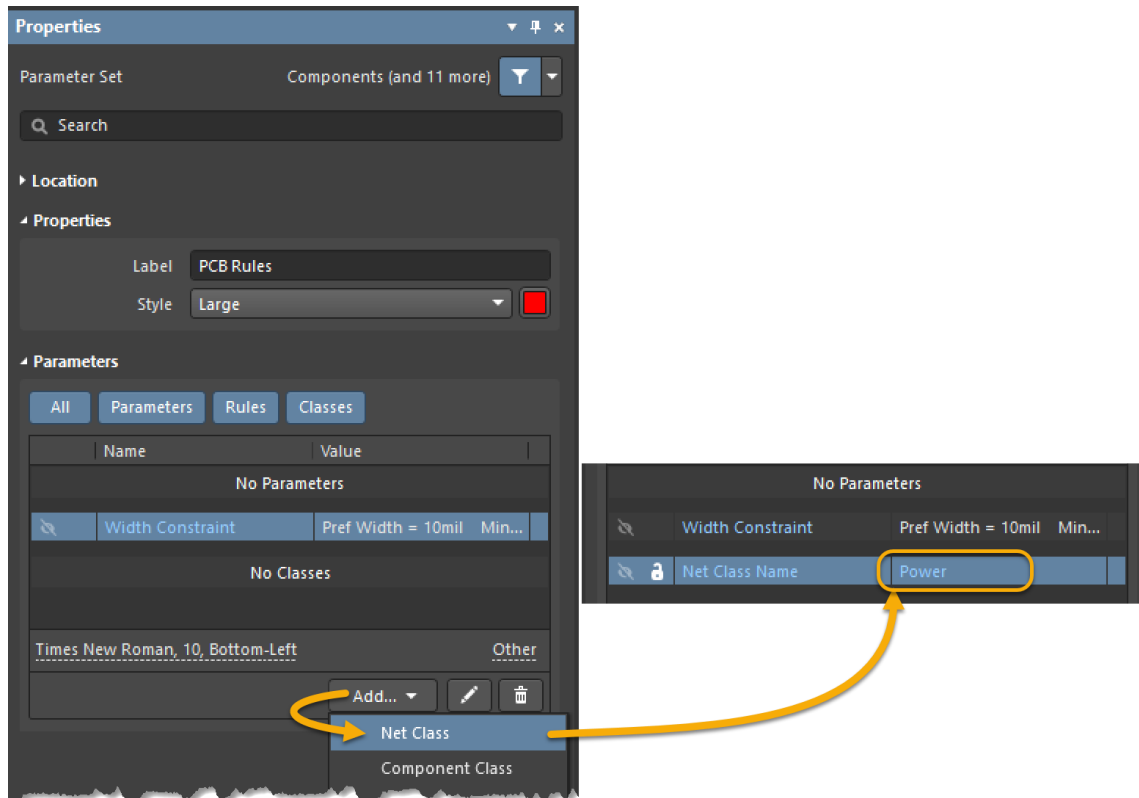

Figure 10. Adding Net Class from the schematic
- g) Still in the *Properties* panel, Figure 10